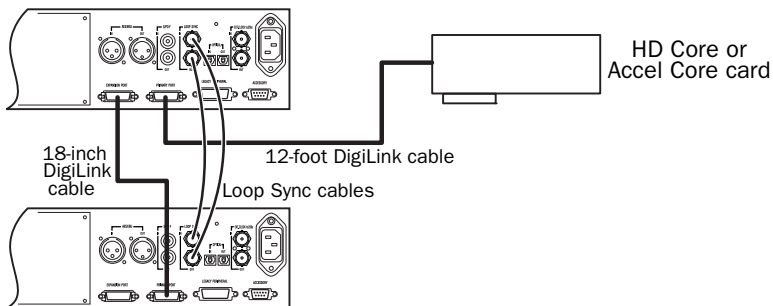

Figure 2. Two 96 I/Os, 32-channel
- Connect a secondary Pro Tools|HD audio interface to the Expansion port on the primary audio interface using the 18-inch DigiLink cable (included with the audio interface). See Figure 2 on page 7.